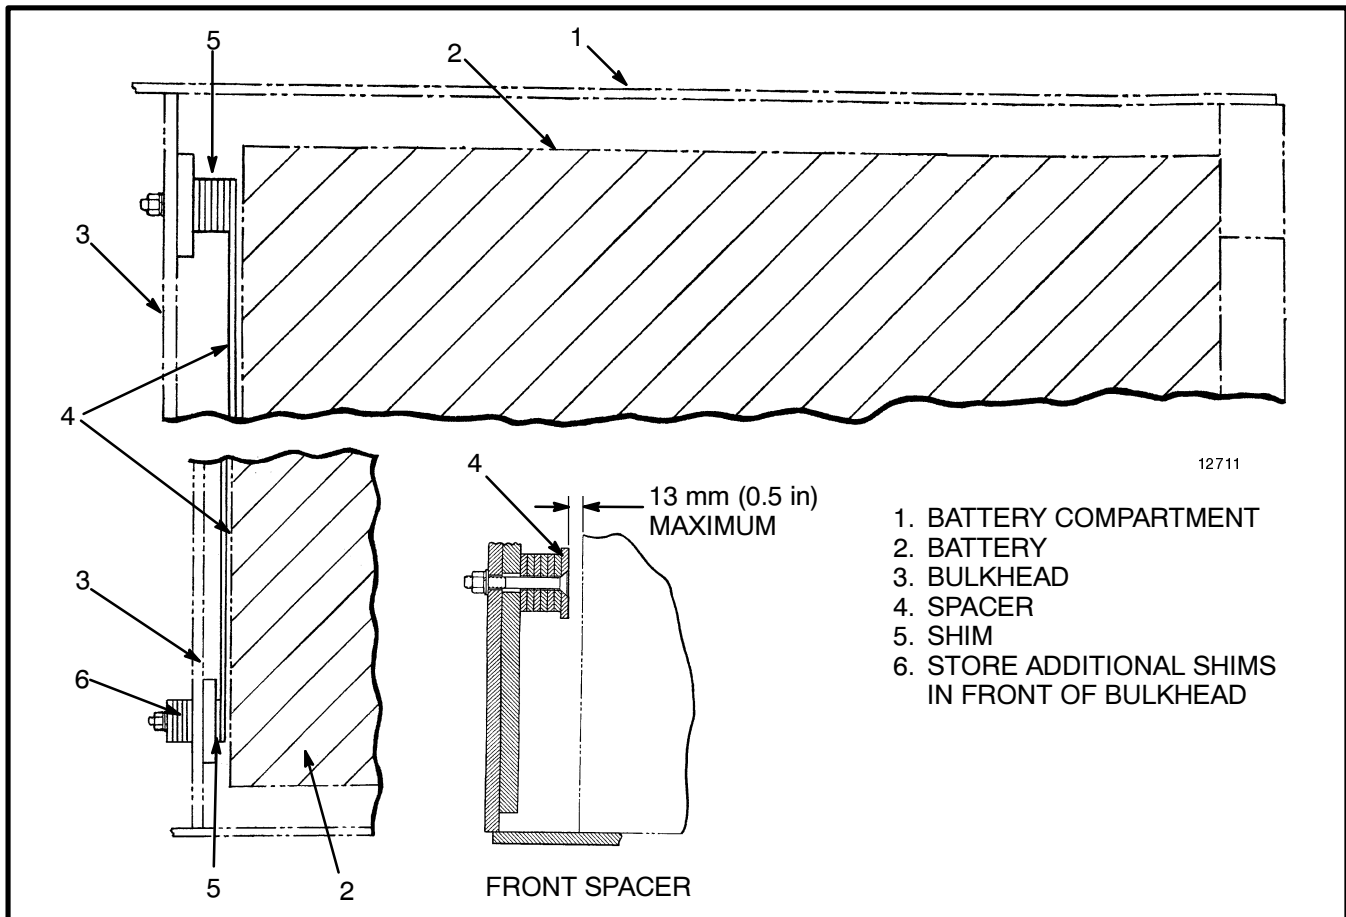
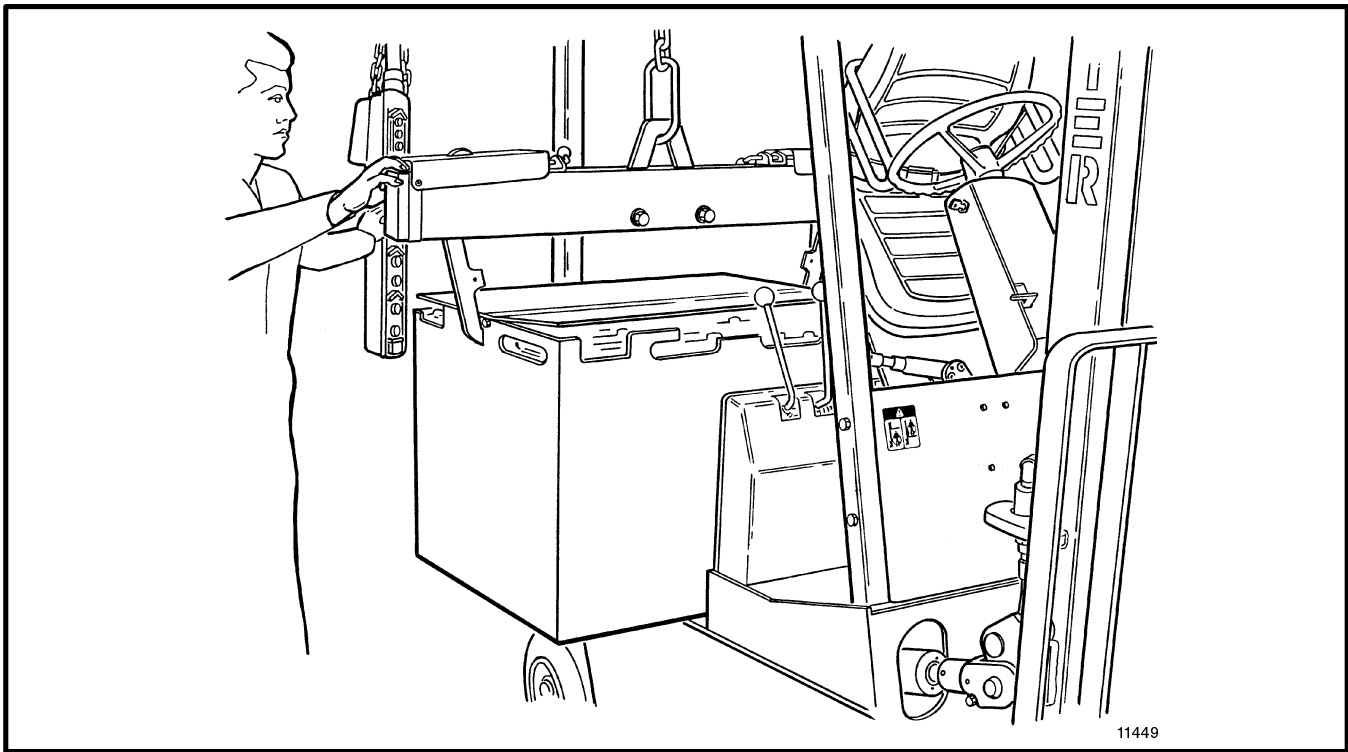

FIGURE 18. BATTERY COMPARTMENT SPACERS
FIGURE 20. CHANGE THE BATTERY
3. Use a spreader bar and crane to lift the battery from the lift truck. See FIGURE 20. When a replacement battery is installed, make sure the battery fits the battery compartment. Use spacers to prevent the battery from moving more than a total of 13 mm (0.5 in) in any one horizontal direction. See FIGURE 18.
4. The lift trucks are equipped with adjustable spacers in the battery compartment. See FIGURE 18. Add or remove shims from under the front spacer bar to control
3. Use a spreader bar and crane to lift the battery from the lift truck. (See FIGURE 20.) When a replacement battery is installed, make sure the battery fits the battery compartment. Use the spacers designed by Hyster Company to prevent the battery from moving more than 13 mm (0.5 in) in any horizontal direction. See the **OPERATING MANUAL** for installation of spacers.